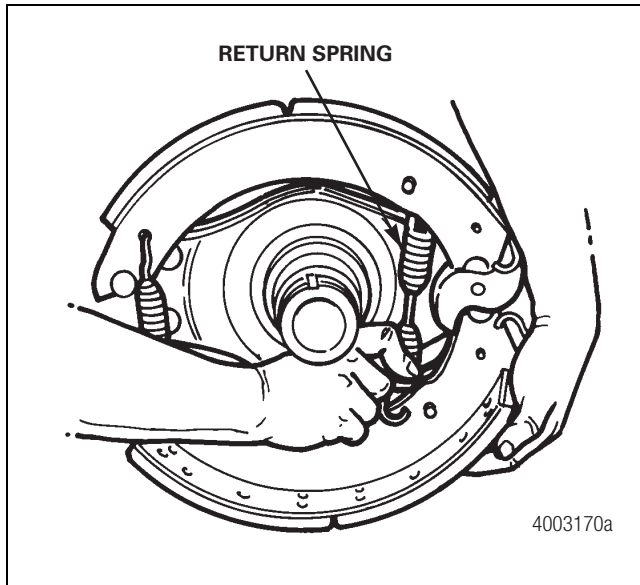

Figure 3.12
3. Lift the bottom shoe to release tension on the brake return spring. Remove the spring. Figure 3.12.